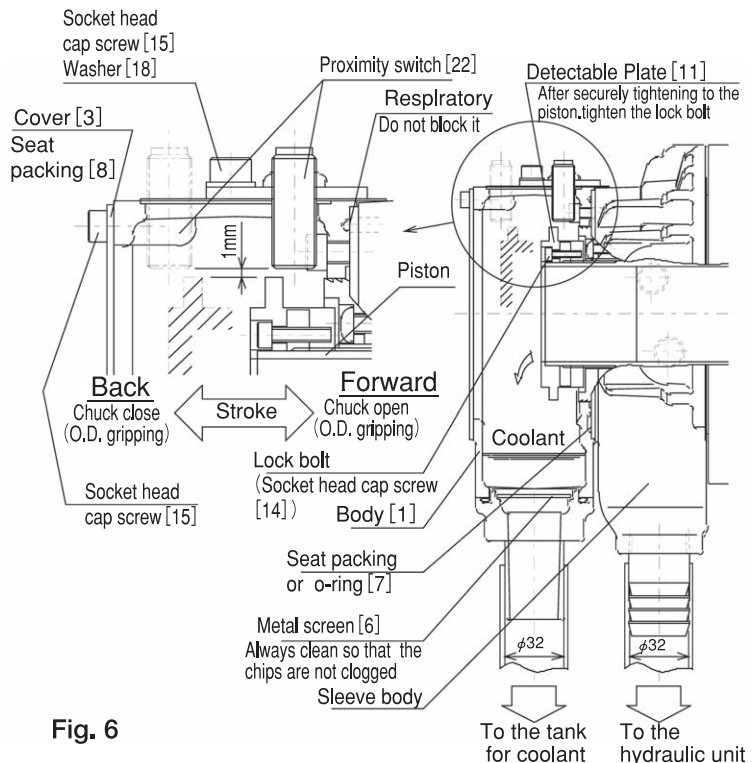
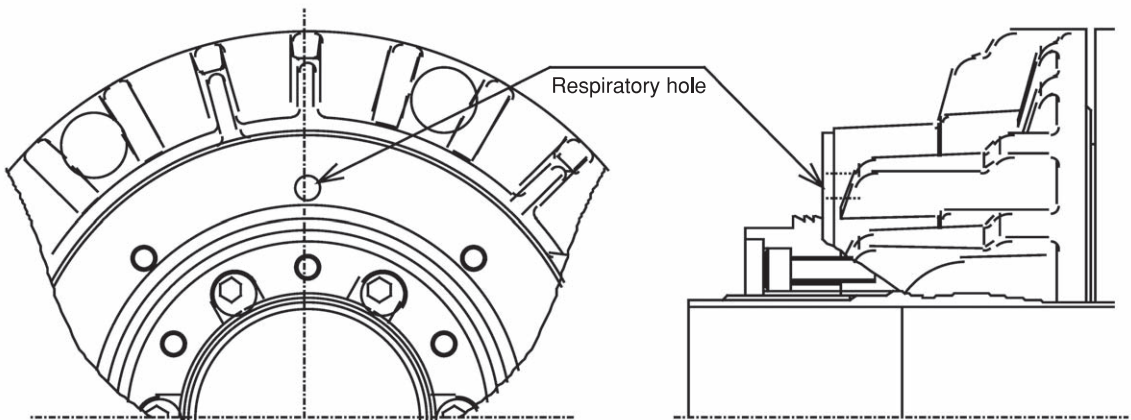

Fig. 6
Fig. 7
- To easily collect the coolant flowing into the coolant collector, provide appropriate slope to the piping, so that the coolant does not stagnate inside the hose. To check the flow, use a transparent vinyl hose. (Inside diameter $\phi 32$) (Fig. 6)
Read following instruction when you adjust the proximity switch. (Fig.6)
- In case you use a coolant collector manufactured by the company other than Kitagawa Iron Works, do not block the respiratory hole. (Fig. 6 , Fig. 7)
Always clean the punching metal so that the coolant does not stagnate inside the coolant collector. Be sure the chips are not clogged. (Fig. 6)